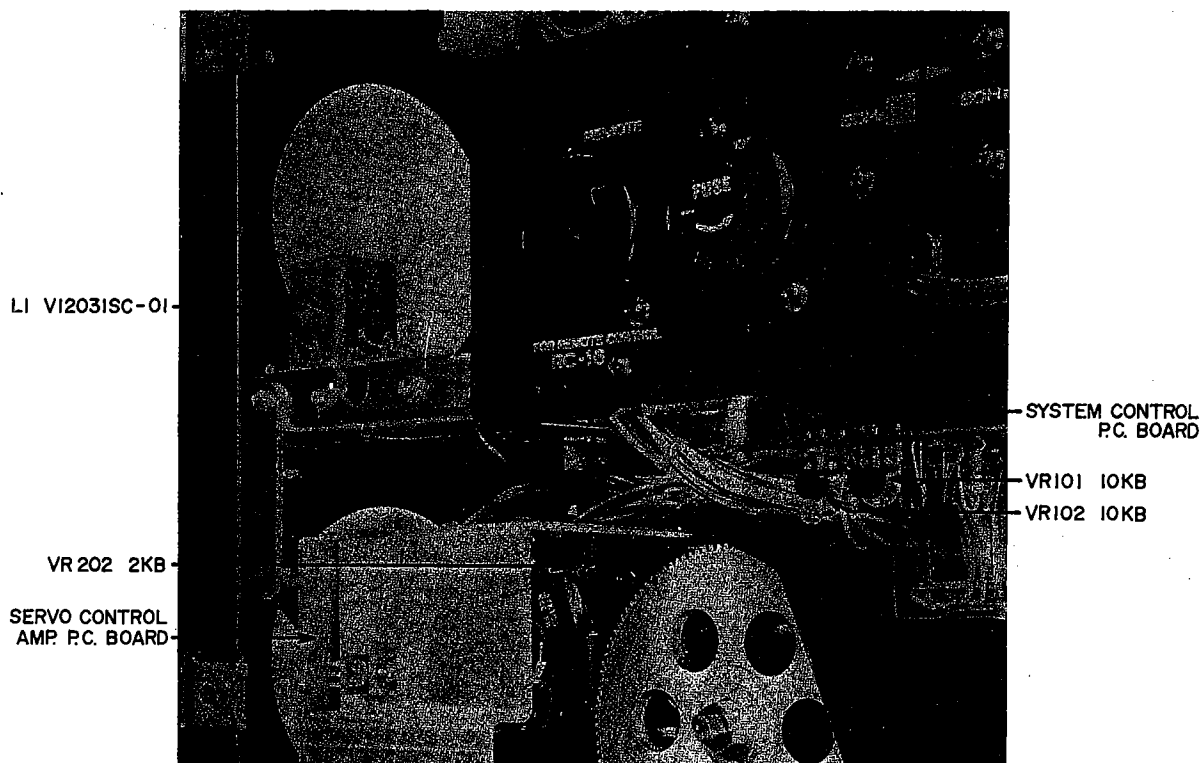

Fig. 8
- 3) Adjust the core of coil L1 (VI023SC-01) shown in Fig. 8 to obtain a frequency counter indication of 500 Hz $\pm 1\%$.
- 4) After the 3-3/4 ips (9.5 cm/sec.) tape speed adjustment has been completed, depress the 7-1/2 ips (19 cm/sec.) Tape Speed Selector Switch and adjust Servo Control P.C. Board semi-fixed resistor VR202 (2 kB) shown in Fig. 8 to obtain a frequency counter indication of 1,000 Hz $\pm 1/-0.5\%$.
Adjust System Control P.C. Board semi-fixed resistor VR101 (30 kB) shown in Fig. 8 so that when the machine is switched from FWD to REV mode or from REV to FWD mode, the pinch wheel separates from the capstan in about 3 seconds.
- 2) Adjust System Control P.C. Board semi-fixed resistor VR102 (10 kB) shown in Fig. 8 so that when the machine is switched from F.FWD or RWD to FWD or REV mode, the time constant is about 1.5 seconds.